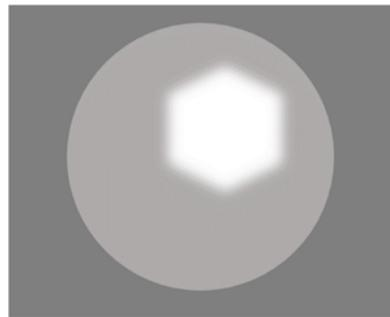

Figure 1. Image you may see after closing the field diaphragm in Step 4.
4. Close the field diaphragm to reduce the amount of light entering the sample until the illuminated spot seen through the eyepiece is smaller than the field of view and you can see the edges of the diaphragm (may be blurry). Figure 1 shows what you should see through the eyepiece.